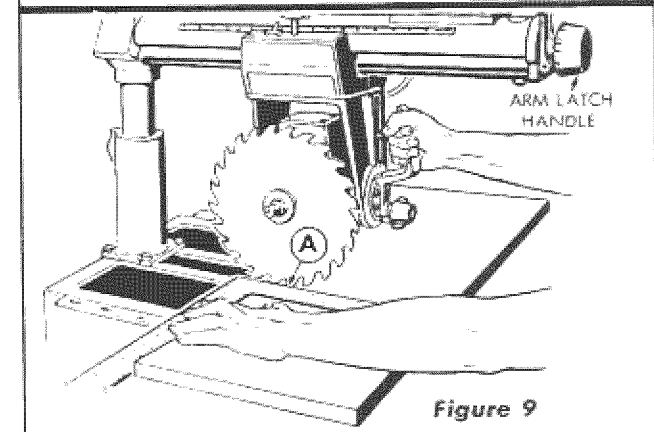
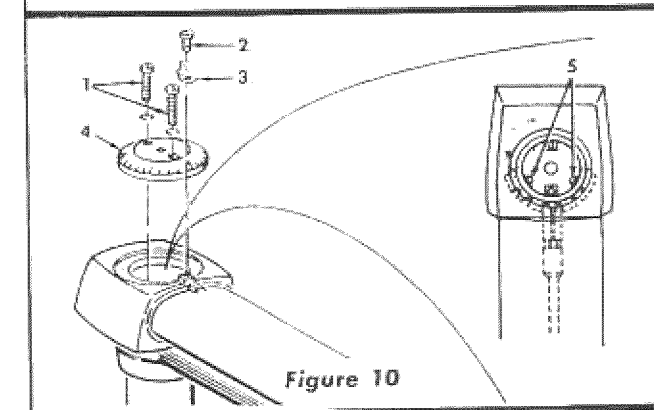

Figure 9
Figure 10
- Loosen the arm latch handle (figure 9) 1/4 turn. Make sure the yoke clamp handle and bevel lock knob are tight.
- Place a framing square on the table as shown in figure 9 and position the saw and square until the leg of the square just contacts a tooth of the saw blade. (Position "A", figure 9.) Mark this tooth with crayon or chalk.
- If saw tooth ("A", figure 9) moves away from the square when moving the blade from the rear toward the front of the table, tap the right-hand front edge of the table.
- If the saw tooth ("A", figure 9) moves into the square when moving saw from the rear to the front of saw table, tap the left-hand front edge of table.
- Remove three screws (1 and 2, figure 10), miter-scale indicator (3) and radial arm cap (4).
- Turn the arm latch handle (figure 9) one-quarter turn counterclockwise but do not pull it out.
- Loosen (do not remove) two hex-head screws (5, figure 10) located inside the column tube.
- d. Move radial arm slightly in the proper direction to make saw tooth ("A", figure 9) follow edge of square when the saw blade is moved in and out in a "cross-cut" manner.
- e. Re-tighten the hex head screws (5, figure 10) and arm latch handle (See figure 9).
- g. After the cross-cut has been accurately squared, install the radial arm cap (4, figure 10), miter-scale indicator (3) and screws (1 and 2). Set the indicator (3) at 0° position.